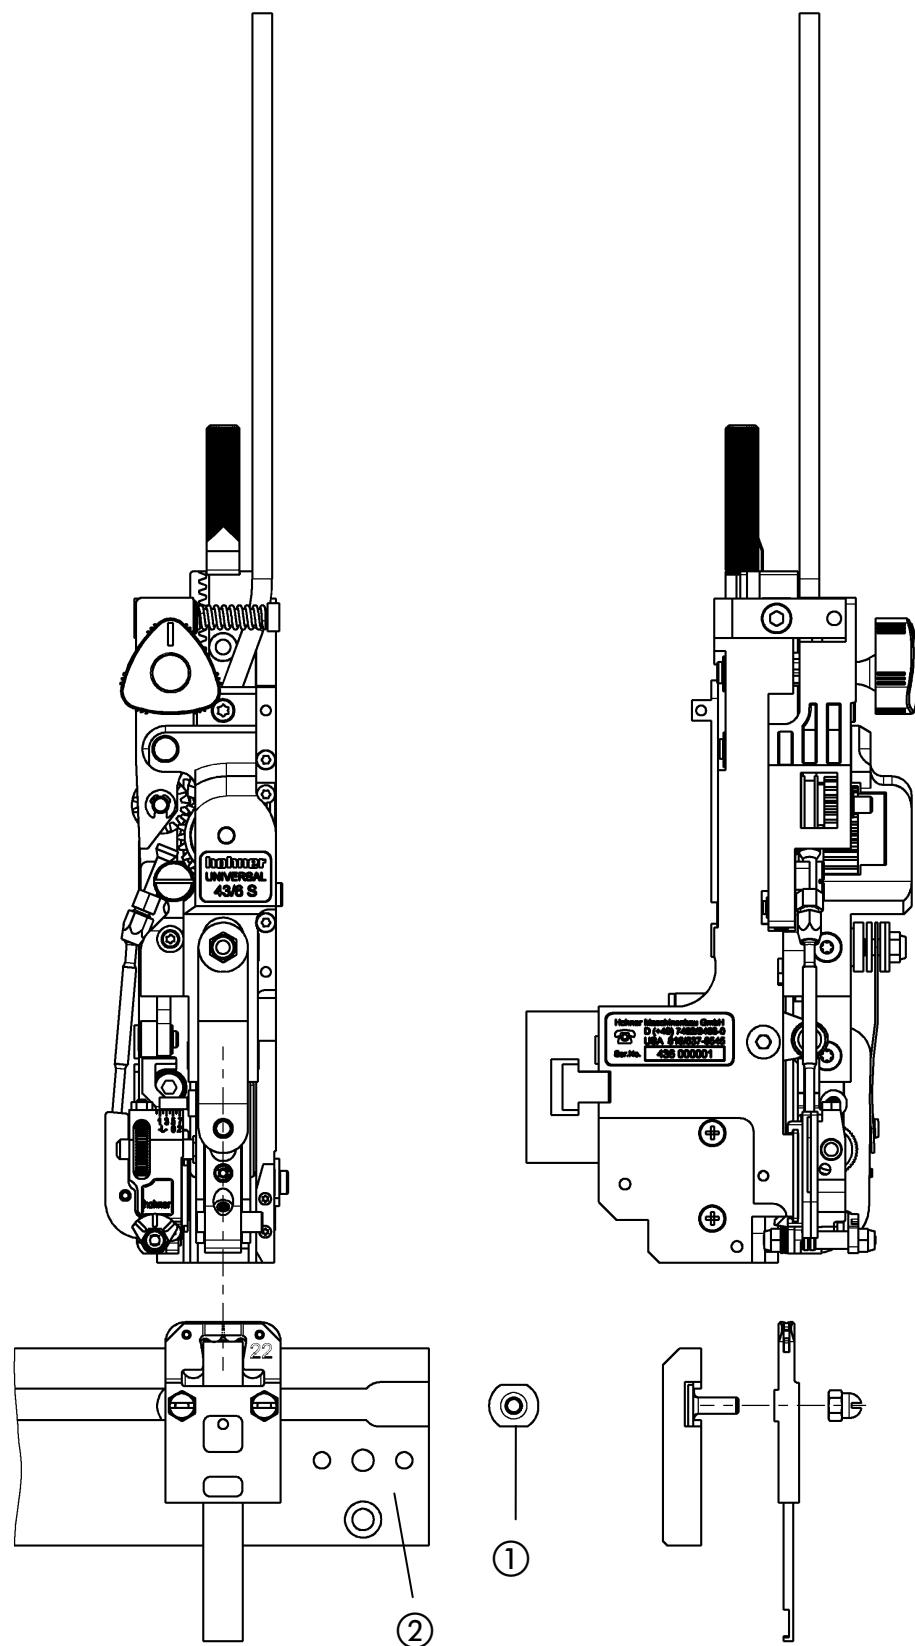

Fig. 7
- Fig. 7 -
- Install slotted screws ① (and tenon block) laterally into the chlincher box mounting rail ②.